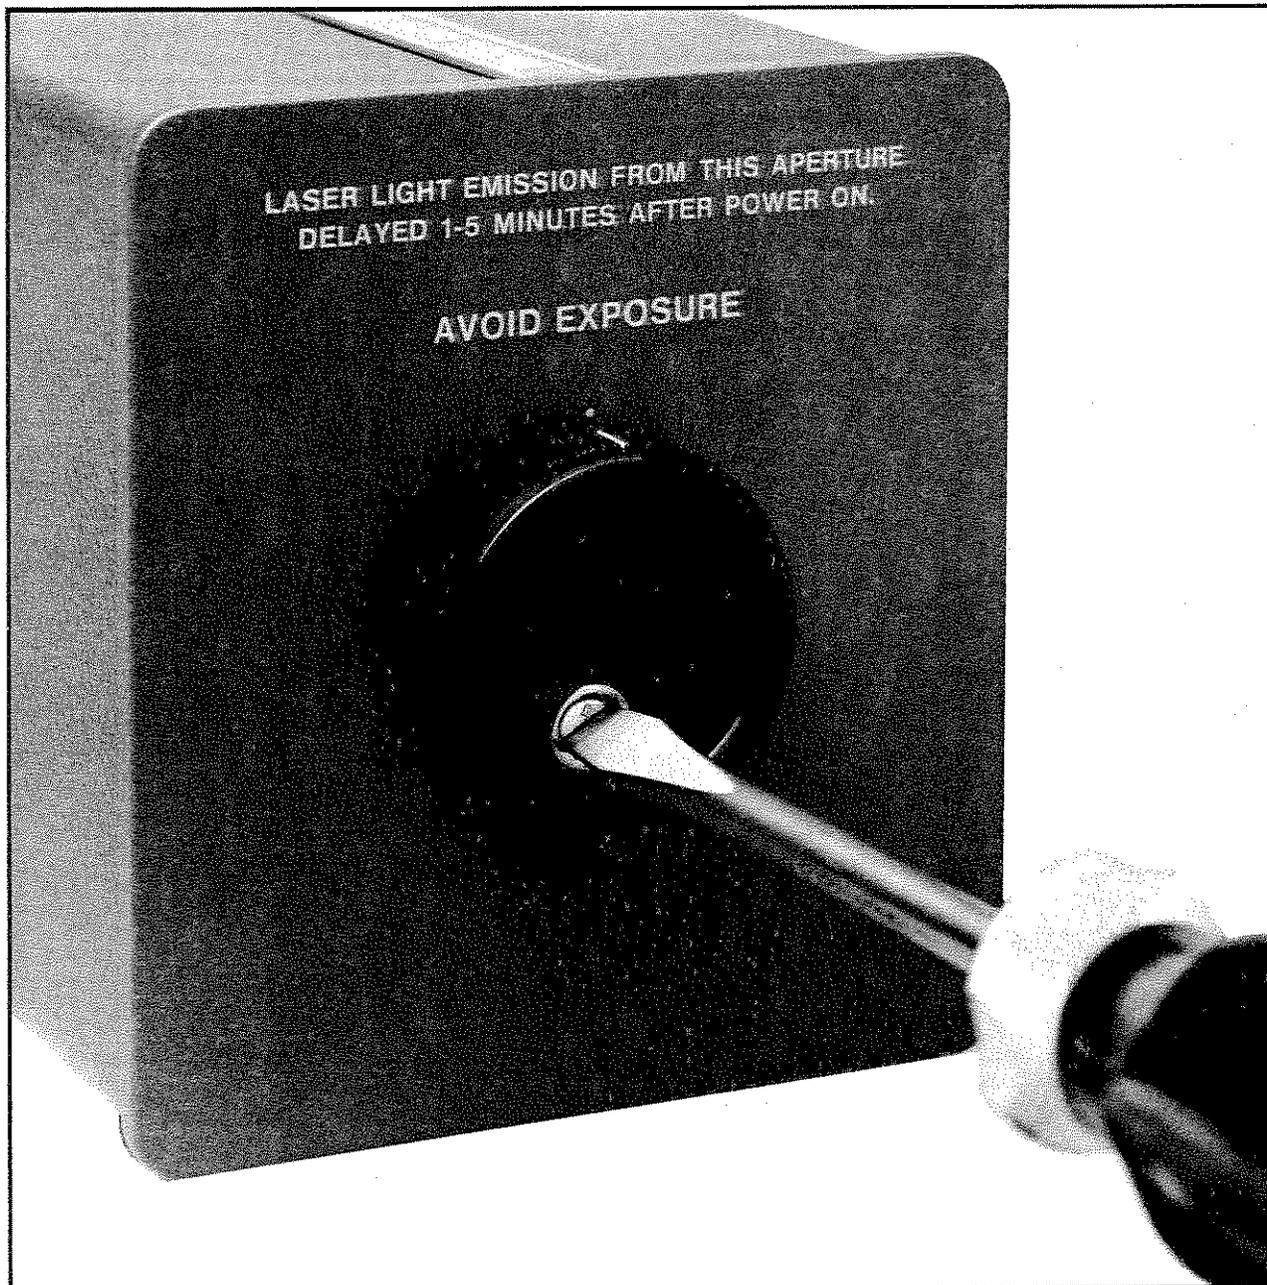

Figure 8-10. HP 5501B Front Panel and Side Cover Removal
- c. Using a suitable screwdriver, rotate the fastener 1/4-turn in the counterclockwise direction (see *Figure 8-10*).